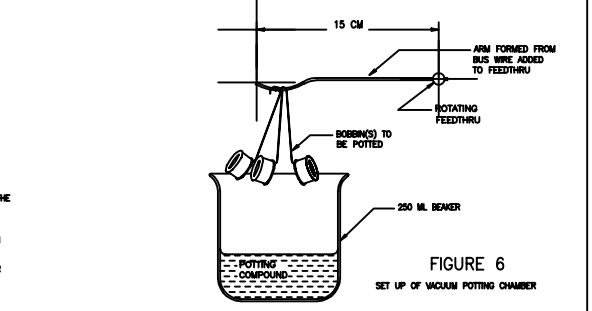
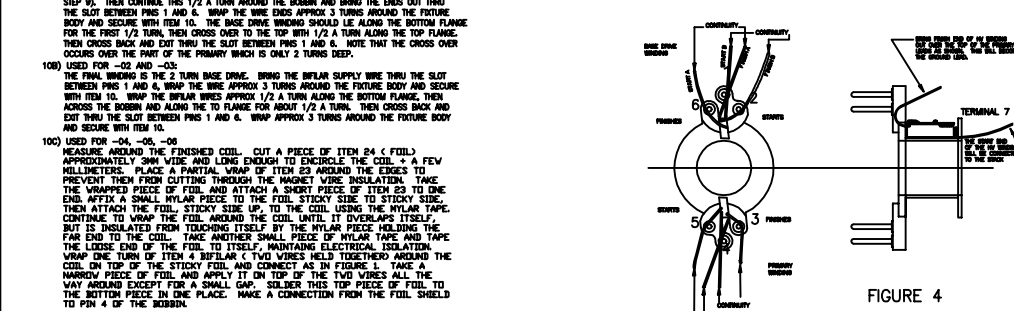

FIGURE 6
FIGURE 4
- ATTACH A 15 CM LONG PIECE OF #18 BUS WIRE TO THE ROTATING FEED THRU SHAFT INSIDE ITEM 13, OVEN. HANG THE BOBBIN(S) FROM THIS WIRE. (SEE FIGURE 6). SET THE OVEN TEMPERATURE TO 85 DEG C. PREPARE 75 GRAMS OF ITEM 7 IN A 250 ML BEAKER, AND PLACE THE BEAKER IN THE OVEN BELOW THE BOBBIN(S).
- TURN ON THE VACUUM PUMP, CLOSE THE VENT VALVE, AND DEGAS THE MIXED POTTING AND THE BOBBIN(S) FOR 15 MINUTES. THEN SLOWLY ROTATE THE FEED THRU SO AS TO DROP THE BOBBIN(S) INTO THE BEAKER. CONTINUE PUMPING FOR ANOTHER 10 MINUTES.
- REMOVE THE BOBBIN(S) FROM THE BEAKER AND HANG IN A 85 DEG C. OVEN. AFTER ONE HOUR USE A 0-70 TO WICK OFF EXCESS POTTING MATERIAL FROM THE BOBBIN. LEAVE THE BOBBIN(S) IN THE OVEN FOR 23 MORE HOURS AT 85 DEG C. TO FULLY CURE THE POTTING.
- USE A TWEEZER TO REMOVE THE STANDING FROM THE BOBBIN PINS. THEN RE-FORM THE PRIMARY AND BASE WINDING LEADS STRAIGHT OUT ALONG THE PINS TO WHICH THEY WILL BE ATTACHED AS SHOWN IN FIGURE 4. SLIDE A 1.5 CM LONG PIECE OF ITEM 21 ALONG EACH OF THE 8 PRIMARY AND BASE DRIVE LEADS AND POSITION IT 1 MM FROM THE POINT WHERE THE WIRE CROSSES THE BOBBIN INSULATOR AS SHOWN IN FIGURE 4. PUT 2 ML OF ITEM 12 INTO A 10 ML BEAKER AND DIP THE END OF A GLASS STIRRING ROD INTO THE STRIPPER AND TOUCH IT TO THE FAR END OF EACH PIECE OF ITEM 21 TO ALLOW THE STRIPPER TO BE WICKED INTO THE TUBE ALONG THE WIRE TO BE STRIPPED. BE EXTREMELY CAREFUL TO NOT ALLOW THE STRIPPER TO WICK ONTO ANY PART OF THE BOBBIN. THE STRIPPER WILL TAKE 3 TO 15 MINUTES TO SOFTEN THE INSULATION. DOING ONE LEAD AT A TIME, REMOVE THE TUBE AND WIRE OFF THE INSULATION USING A SMALL PIECE OF ITEM 22 AND A PAIR OF TWEEZERS. FINISH THE CLEAN WIRE WITH THE TWEEZER AND DRAW IT AWAY FROM THE BOBBIN. AFTER ALL LEADS ARE STRIPPED, CLEAN OFF THE EXCESS STRIPPER BY SOLVENTING IT WITH ITEM 8 WHILE BRUSHING THE AREA WITH AN ACID BRUSH. REMOVE THE BOBBIN FROM THE FIXTURE AND RINSE IN ITEM 8 AND DRY WITH OIL-FREE COMPRESSED AIR.